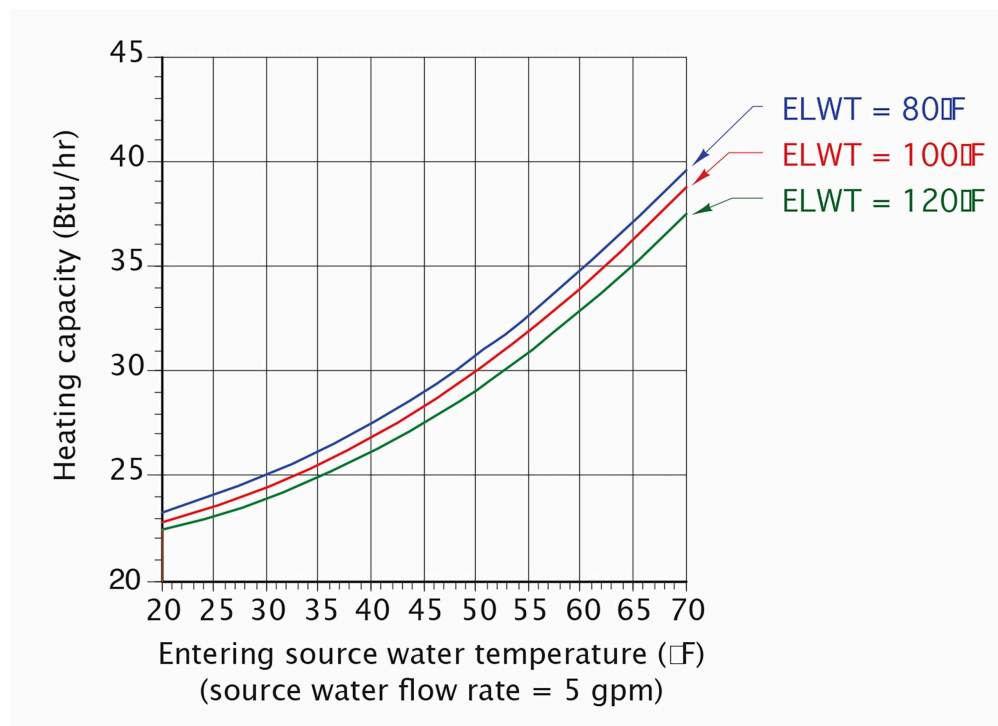

Figure 1 Heating capacity for a water-to-water heat pump
- Figure 1 The refrigeration cycle © Caleffi Hydronic Solutions (<https://www.caleffi.com/usa/en-us>). Used with permission.
The expression of the heating capacity of a gas-fired furnace is centred around the quantity and type of fuel being burned (eg. 75,000 btuh natural gas or propane) and the construction of the furnace (mid-or-high efficiency) and is therefore fairly straightforward. In other words, the conditions that determine its heat output are fairly finite and will not vary depending on conditions such as the temperature of the return. However, the conditions that determine the heating capacity of a water-to-water heat pump can vary greatly. Temperature of the source media, temperature of the load media, as well as the flow rates of both the source and load media can change, and they all have an effect on the heat pump’s heating capacity. Formulas and graphs must be consulted that take into account the variations in these conditions. An example of a chart showing the heating capacity in btuh of a water-to-water heat pump is shown in Figure 1 below.